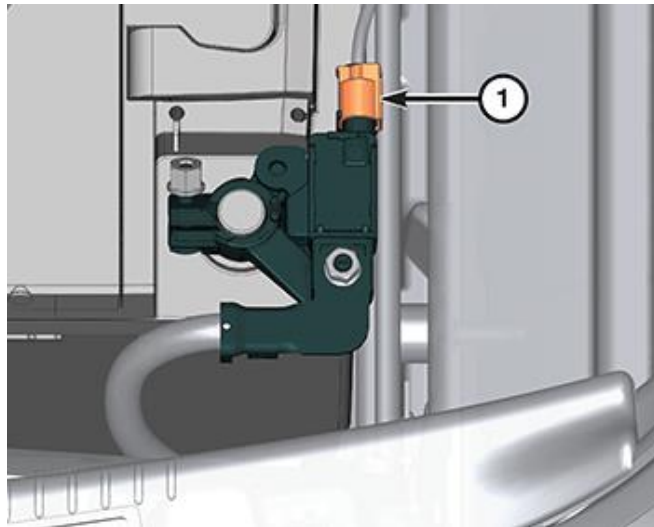

Figure 2 – IBS Electrical Connector
2. Disconnect the Intelligent Battery Sensor (IBS) electrical connector (1) (Figure 2).
- g. Install the electrical connector (1) to the IBS. Make sure there is no stress on the wires (Figure 2).